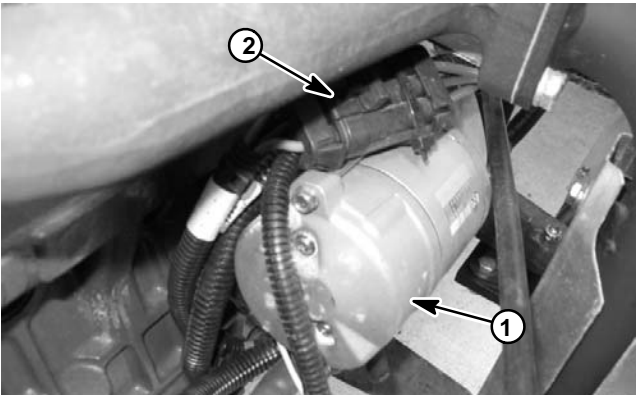

Figure 41
The Multi Pro 5700–D uses three (3) fusible links for circuit protection. These fusible links are located in a harness that connects the starter B+ terminal to the main wire harness (Fig. 41). If any of these links should fail, current to the protected circuit will cease. Refer to wire harness drawings in Chapter 8 – Electrical Diagrams for additional fusible link information.